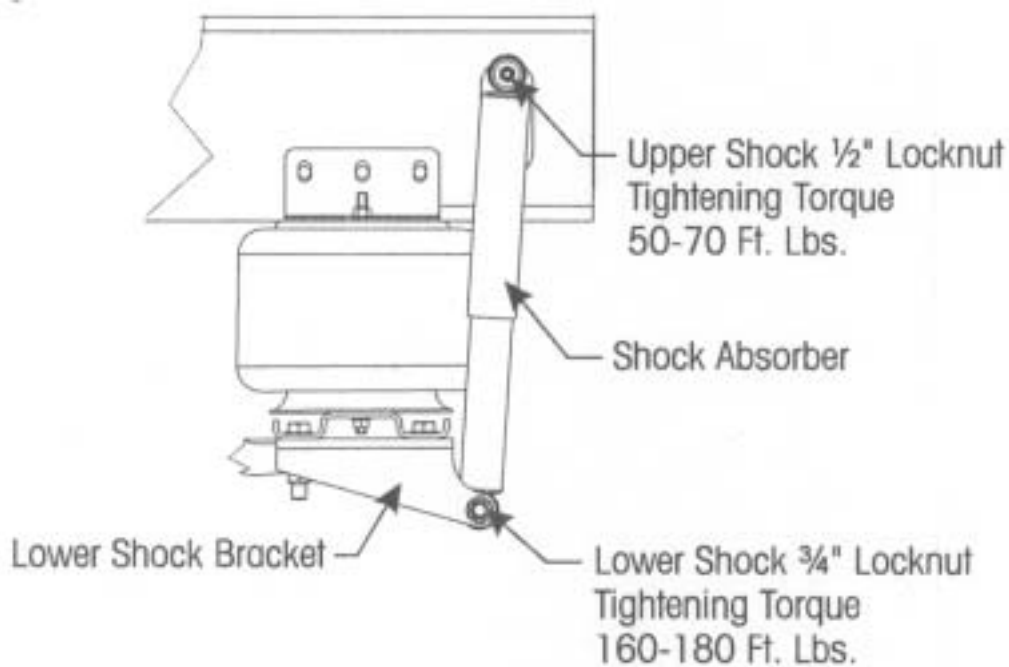

Figure 7.12
1. Remove the ½" locknut and washers, that connect shock absorber to frame hanger. See **Figure 7.12**.